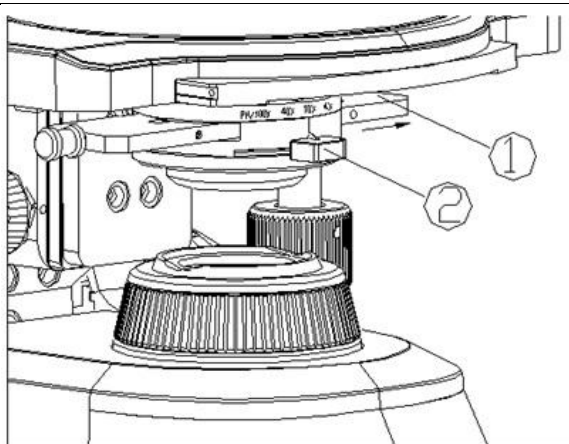

Fig. 28
Open the field diaphragm ② completely (Fig. 28).